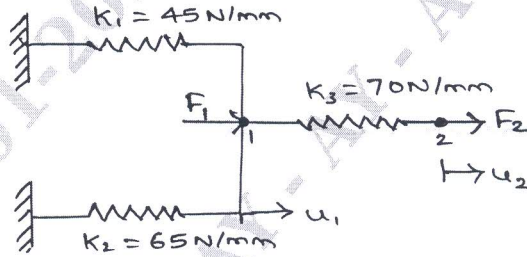

Fig Q1(b)
- b. For the spring system shown in Fig Q1(b). Using principle of minimum potential energy, determine the Nodal displacement take  $F_1 = 70\text{N}$  and  $F_2 = 105\text{N}$